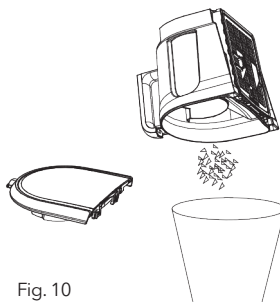

Fig. 10
4. As in Fig.10, shut up the dust chamber for a circular use after your cleaning.